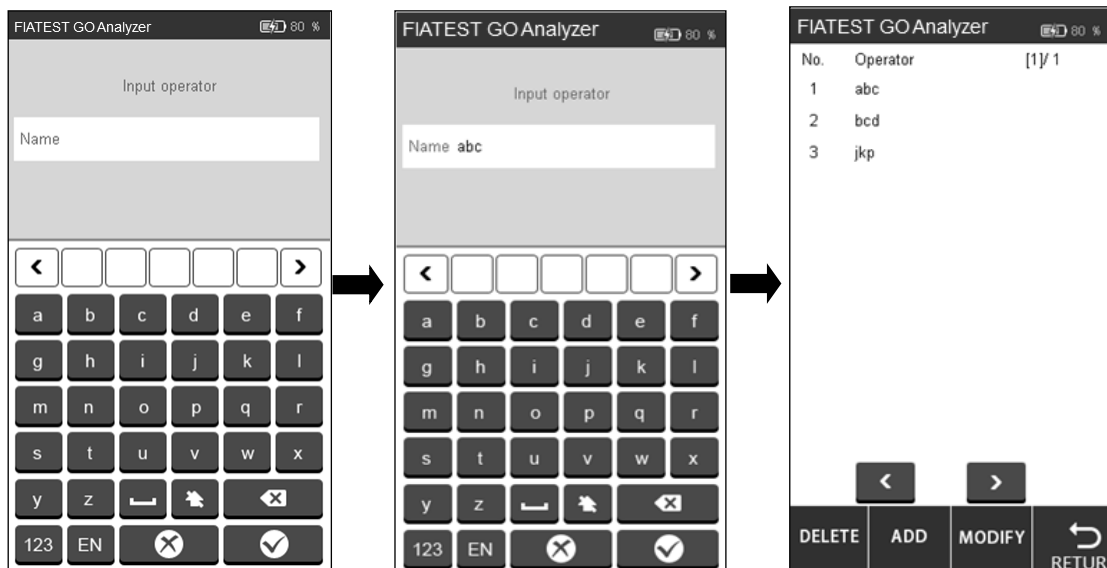
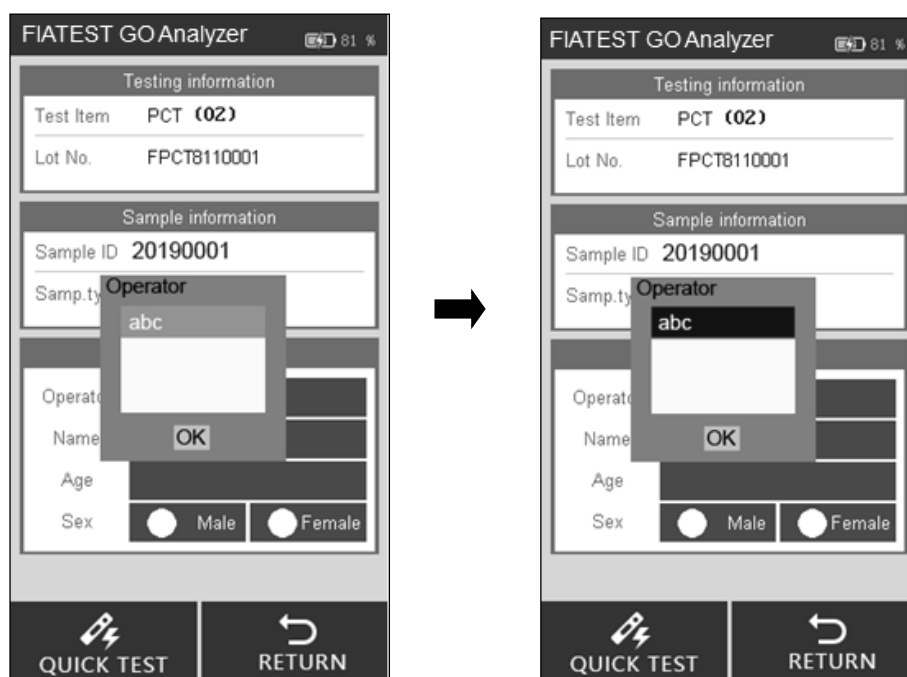

Fig 18
Fig 31
Click **“ADD”**, key in the operator name, click  to complete the adding. (Ref Fig 18)
Click the operator which needs to be deleted or modified, and the color will be changed to blue. Click **“DELETE”**, the selected operator will be deleted, click **“MODIFY”** to enter the interface as Fig 18. Click **“RETURN”** to return to the previous screen.
Step 5: Fill the information of patient, such as operator, patient name, age and gender. Tap the area besides operator, the interface will appear as Fig 31. Select the Operator. Feeding in Operator’s Information is explained with Fig 18 in section 5.1.1.